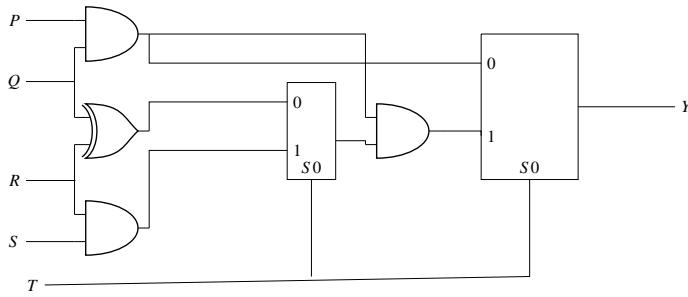

Fig. 3.19: circuit diagram
36. The propagation delays of the XOR gate, AND gate and multiplexer (*MUX*) in the circuit shown in Fig. 3.19 are  $4ns$ ,  $2ns$  and  $1ns$ , respectively. If all the inputs  $P, Q, R, S$  and  $T$  are applied simultaneously and held constant, the maximum propagation delay of the circuit is